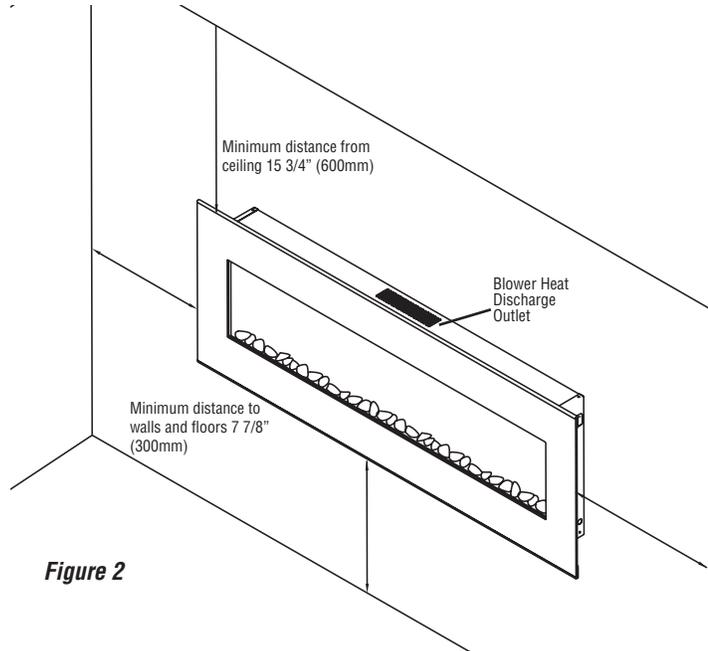

Figure 2
NOTE: Minimum distances between walls, floors, and ceilings must be observed. See **Figure 2**. Failure to do so may result in damage to finishing materials on the wall including but not limited to paint and wallpaper.
8. A minimum height of 15" from bottom of heater to floor is recommended for optimum viewing of fuel bed. See the **Figure 2** for the recommended framing dimensions.